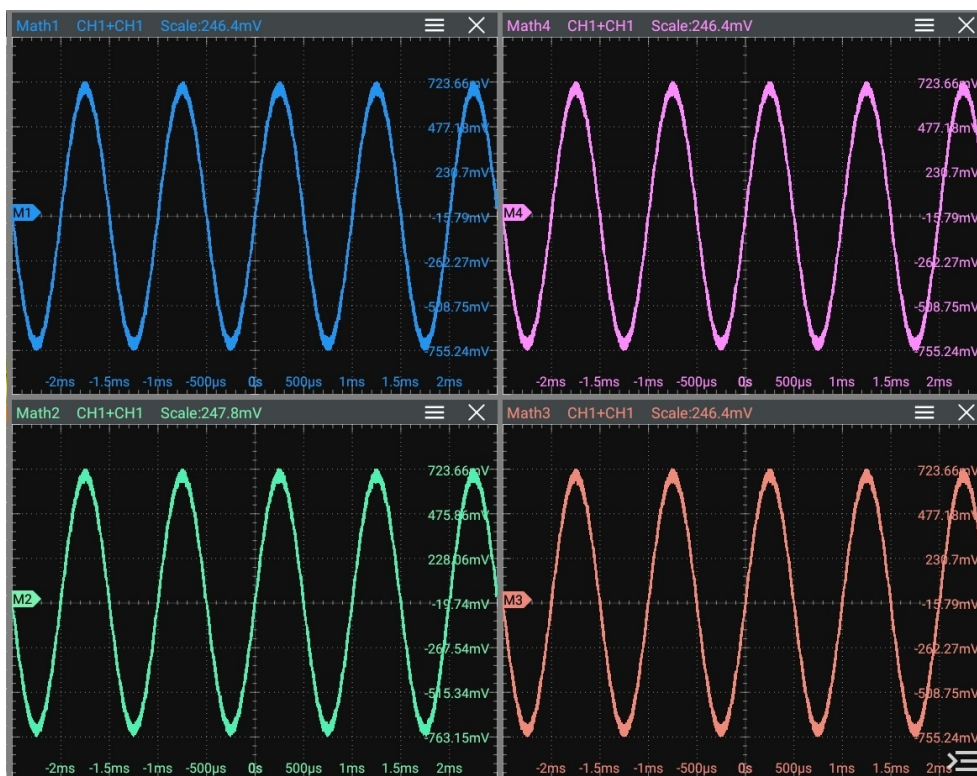

Figure 9.2 Waveform Display Window of the Operation Results
- Click or tap the Math1 ~ Math4 label at the bottom of the screen, and the corresponding interface appears on the screen, as shown in *Figure 9.2*. Click or tap the label again, or the icon  at the upper-right corner of the window to enter the math operation menu.
In the **Math** menu, click or tap the ON/OFF tab for the **Operation** menu to show or hide the waveform display window of the operation results. By default, it is OFF. When set to ON, the figure as shown in *Figure 9.2* is displayed on the screen.